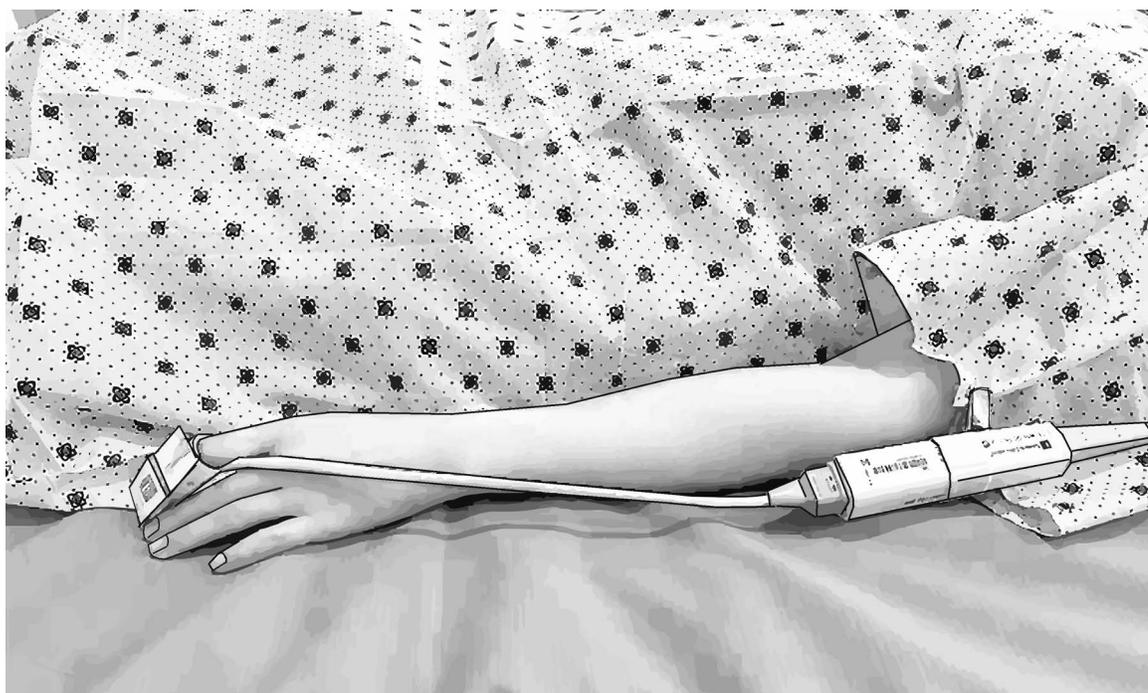

Figure 4-4 Smart pressure controller application
- 2 Use the Smart pressure controller cable clip(s) to place the Smart pressure controller near the patient's forearm. See figure 4-4 (preferred location).